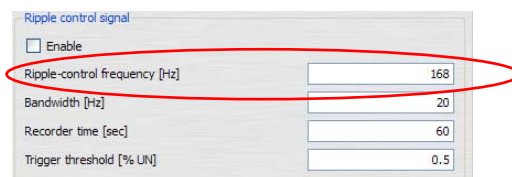

Figure 1. Frequency must be set up for Permanent Recording, all other settings do not apply
That is, the PQ-Box 100 completes an FFT analysis on each successive 200 ms of data to obtain harmonic and interharmonic information. The level of the FFT for the selected ripple control frequency (e.g. Figure 1), is measured over a three second period to determine presence of a ripple control signal, and generate a PQ Event .
For the desired frequency, the PQ-Box 100 records a permanent recording of voltage (as a percentage of nominal-voltage) which is accessible as the “U eff R” data. The frequency to be monitored must be set-up in the Ripple control signal set-up (Figure 1). Only the Ripple-control frequency setting applies to Permanent Recording, the other settings apply to the Ripple Control Signal Analysis options (including Enable/Disable which does not affect Permanent Recording).
- The “Enable” check box (Figure 1) does not need to be checked to allow Permanent Recording. Permanent Recording will occur regardless of check box status. The Ripple Control Frequency (Figure 1) should be set to appropriate frequency to be monitored.